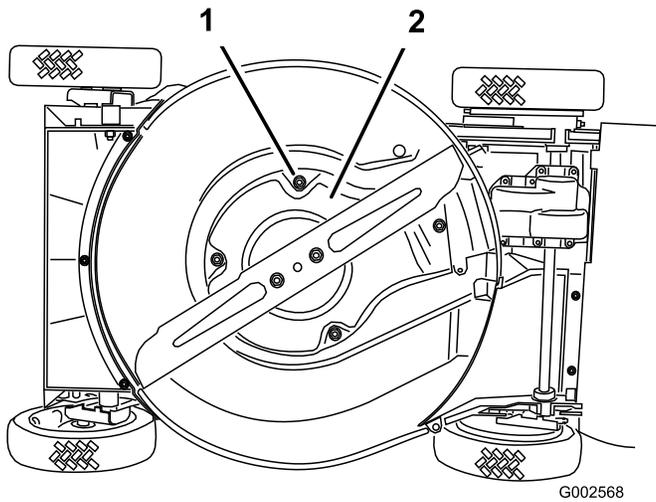

Figure 36
6. Remove the 4 screws that hold the shield in place (Figure 36).